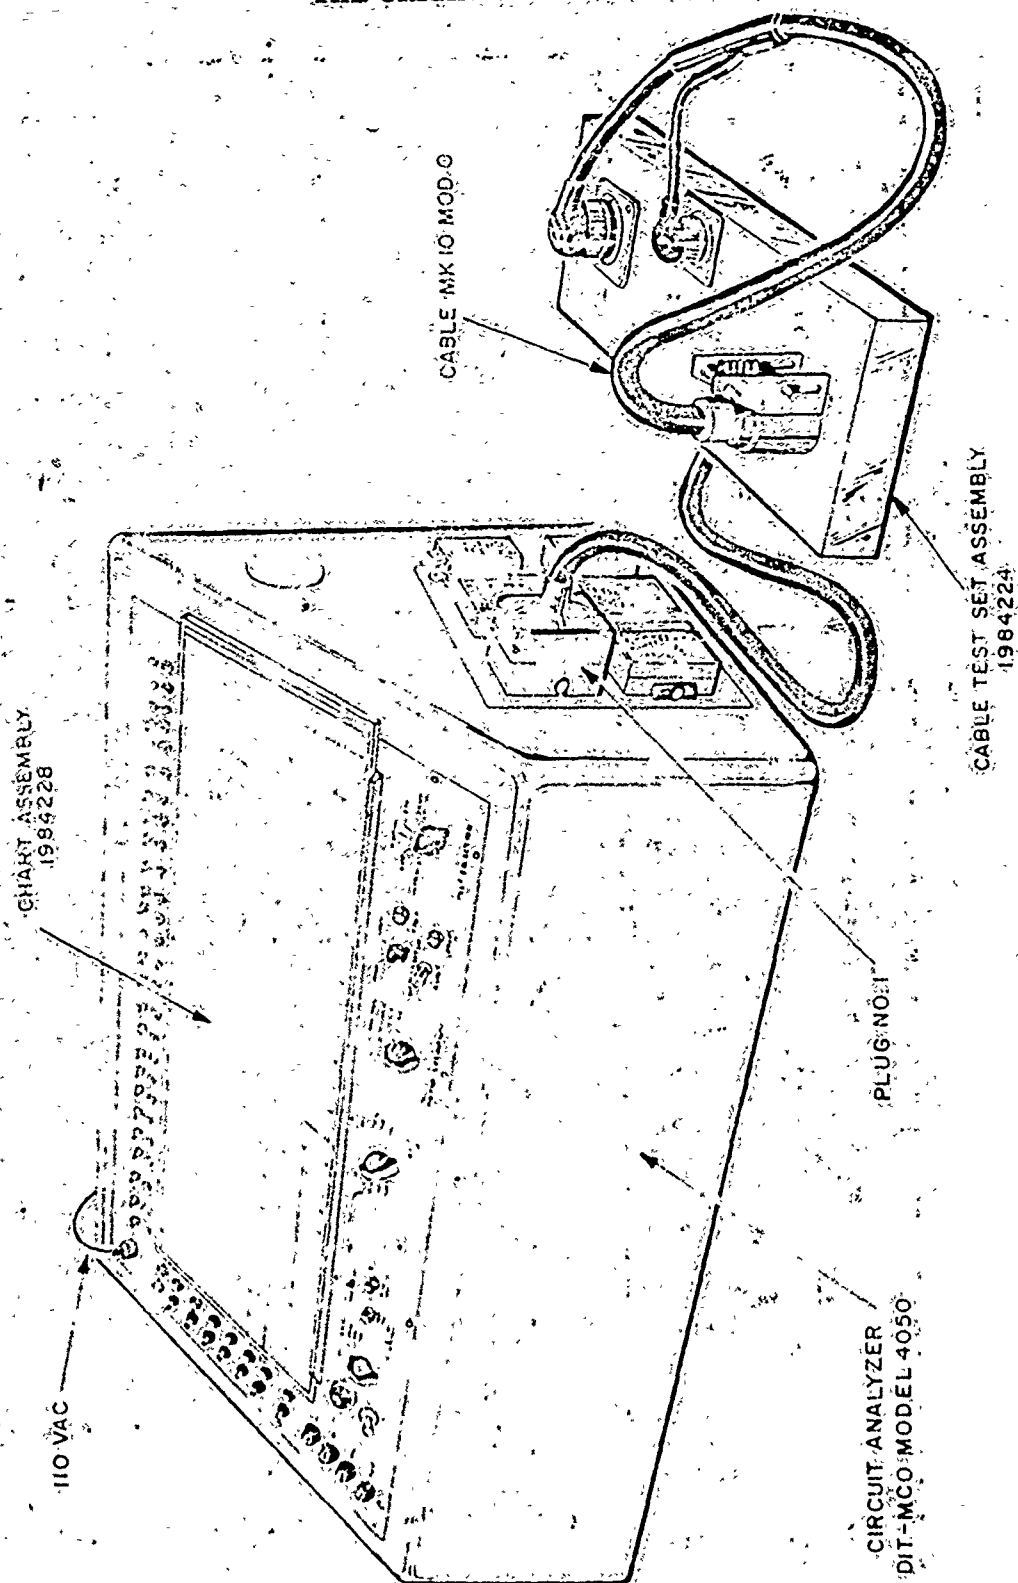

Figure 1. CIRCUIT ANALYZER TEST SETUP
1.1 Purpose. The purpose of the ordnance data is to provide the information and instructions necessary to test the Cable Assembly Mk 10 Mod 0, BuWeps LD 497959, using a Circuit Analyzer Test Set BuWeps LD 615556, Figure 1. This test is conducted to determine whether the circuits between the contacts of the connectors are continuous and have a specific insulation resistance between contacts not electrically connected and between these contacts and the connector shells.
4.3.3 Plug the Cable Assembly Mk 10 into the test fixture so that the cable plugs correspond to the fixture receptacles, Figure 1.